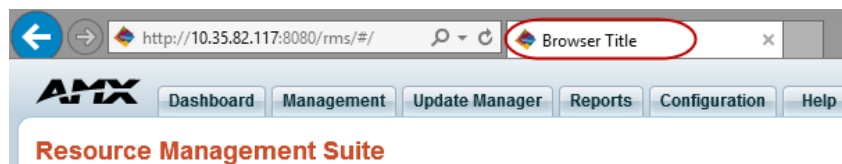

FIG. 344 Browser Title
3. Click the **Back to Dashboard** button to refresh the application window to display the new Browser Title - displayed in the browser tab containing the RMS application window (FIG. 344):
Click **Restore to Default** to remove changes and restore the default logo image (default = AMX Logo, see FIG. 344 on page 210).